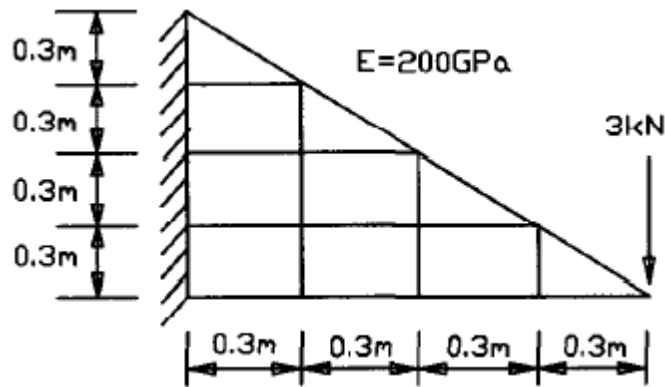

Figure P8.16
16. Solve the stress problem shown in **Figure P8.16**.